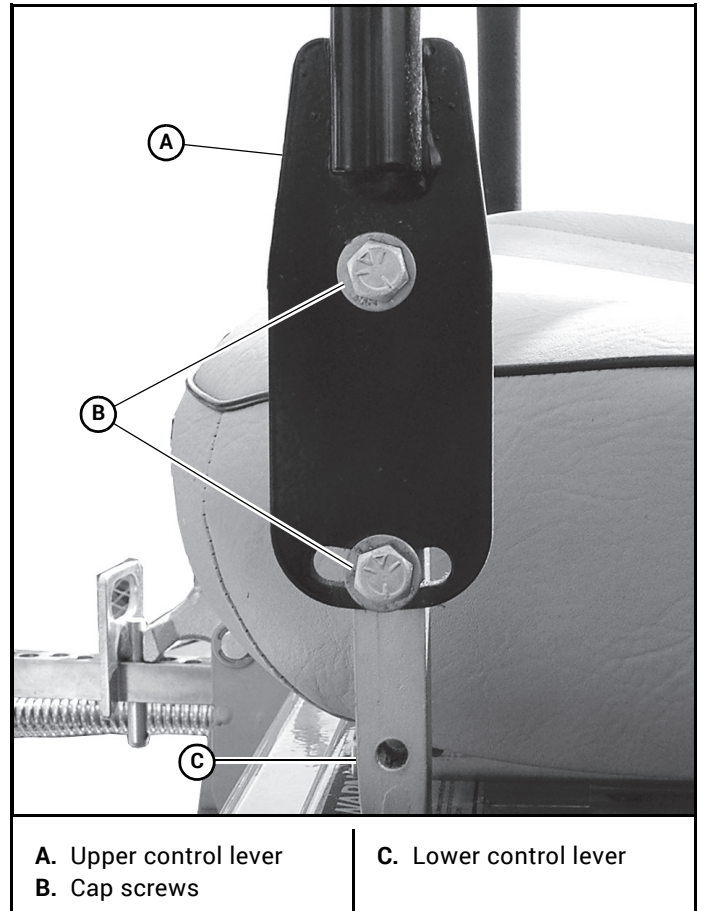

Figure 4-18
- A. To pivot the upper control levers forward or rearward, loosen the cap screws that attach the upper control lever to the lower lever. Then, pivot the upper control lever. Tighten the cap screws. Figure 4-18
- B. To lower and raise the control levers, remove the cap screws. Slide the upper control lever up or down and align the holes in it with the holes in the lower lever. Re-install the cap screws and tighten. Figure 4-18